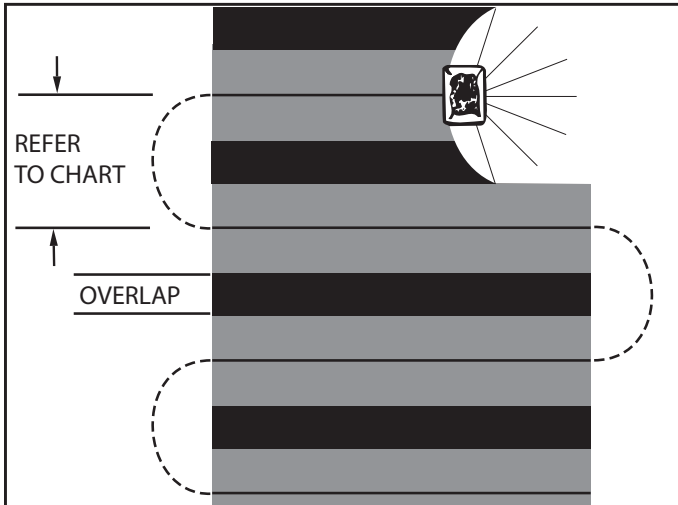

FIGURE 19
- To insure uniform coverage, make each pass so that the broadcast pattern slightly overlaps the pattern from the previous pass as shown in figure 19. The approximate broadcast widths for different materials are shown in the application chart on this page.
- Heavy moisture conditions may require a cover over the hopper to keep contents dry. The vinyl cover (AA) acts as a wind and moisture shield, but should not be used as a rain cover.